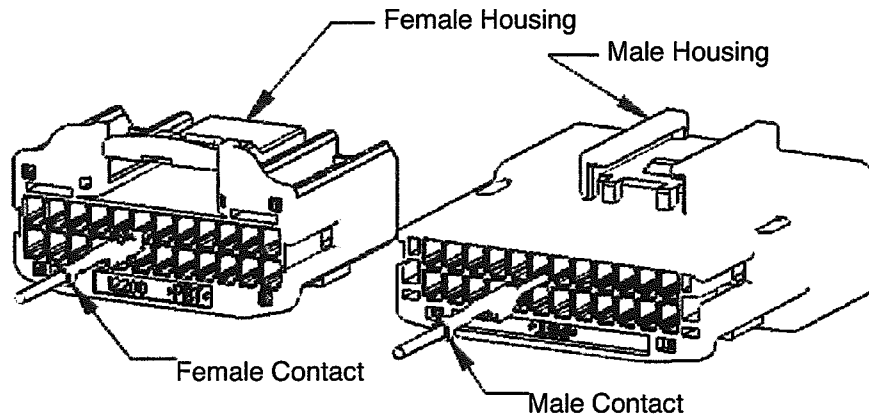

Fig.8
(3) Insert the contacts into the housing with same direction as shown in Fig. 8. The insertion is finished when the lance is locked and the contact can not be more inserted.
(4) By pulling the contact lightly (MAX 20N), check to make sure that the contact can not be withdrawn.